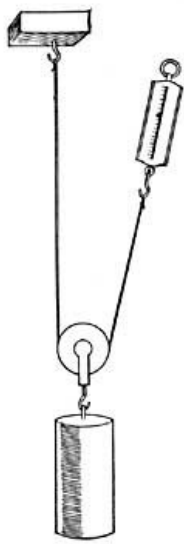

FIG. 110.—A movable pulley lightens labor.
**161. Movable Pulleys.** By the use of a movable pulley, we are able to support a weight by a force equal to only one half the load. In Figure 109, the downward pull of the weight and the downward pull of the hand are equal; in Figure 110, the spring balance supports only one half the entire load, the remaining half being borne by the hook to which the string is attached. The weight is divided equally between the two parts of the string which passes around the pulley, so that each strand bears only one half of the burden.
We have seen in our study of the lever and the inclined plane that an increase in force is always accompanied by a decrease in distance, and in the case of the pulley we naturally look for a similar result. If you raise the balance (Fig. 110) 12 feet, you will find that the weight rises only 6 feet; if you raise the balance 24 inches, you will find that the weight rises 12 inches. You must exercise a force of 100 pounds over 12 feet of space in order to raise a weight of 200 pounds a distance of 6 feet. When we raise 100 pounds through 12 feet or 200 pounds through 6 feet the total work done is the same; but the pulley enables those who cannot furnish a force of 200 pounds for the space of 6 feet to accomplish the task by furnishing 100 pounds for the space of 12 feet.